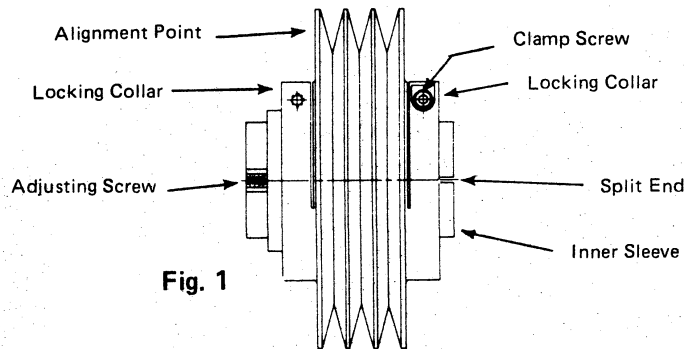

Fig. 1
2. Loosen, but **do not** remove socket head clamp screws from the outboard and inboard flanges. See Figure 1.